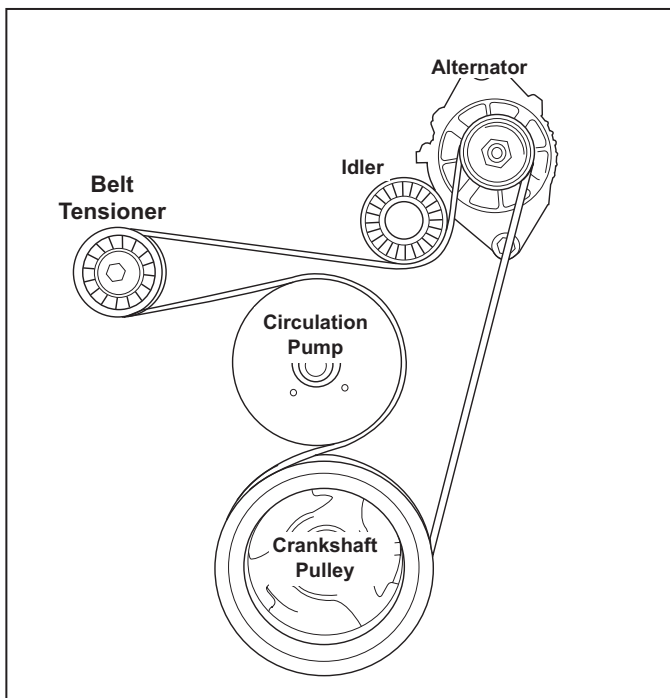

Figure 11-9 6.0L Accessory Drive Belt Configuration
1. With the engine at normal operating temperature, remove the dipstick and install a crankcase oil pump onto the dipstick tube (Figure 11-9). Insert the discharge hose into a suitable container. Pump the oil from the engine until the crankcase is empty. Remove the oil pump from the dipstick tube.